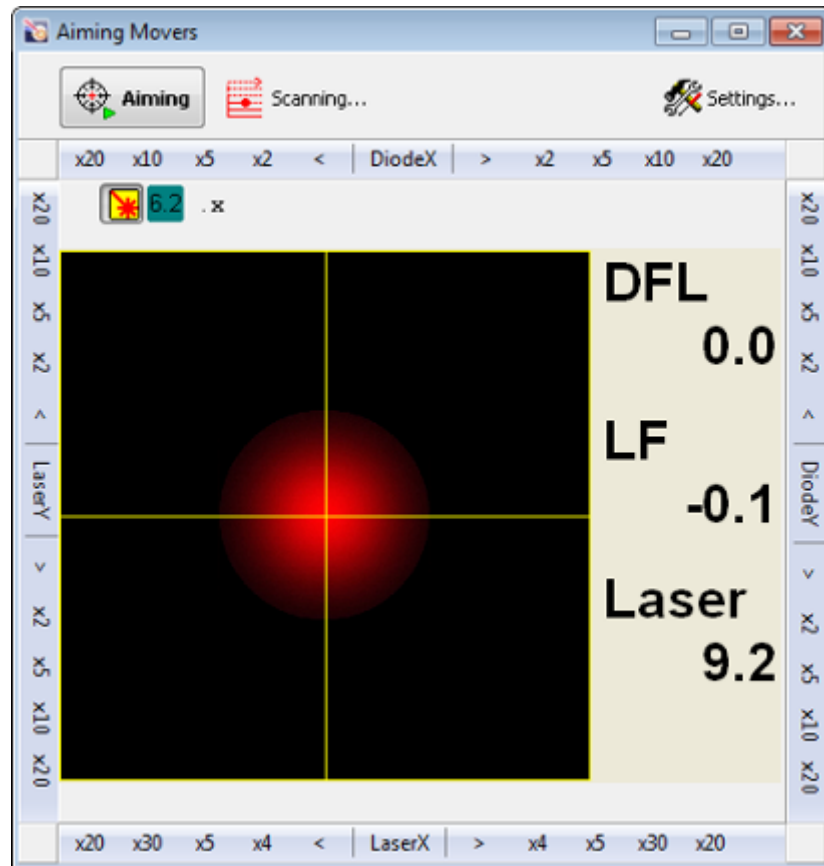

Fig. 7-2. Laser beam is directed to the center of the photodiode
2. Verify, that the laser spot is at the center of the photodiode indicator and **DFL** is equal to zero (Fig. 7-2).